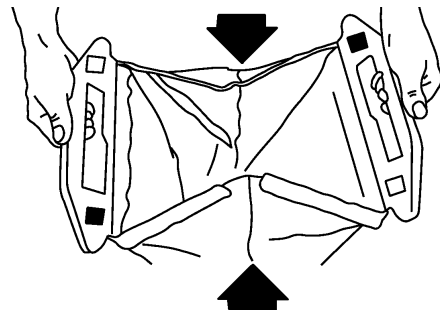

Figure 42
9. Close rear of bag by folding sides in and pressing interlocking rear handle halves together (Fig. 42).